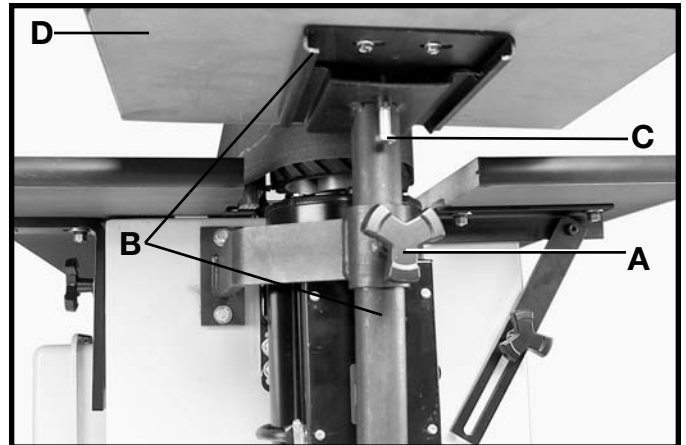

Fig. 30
2. To adjust the end table vertically, loosen lock knob (A) Fig. 30, and move the table assembly (B) up or down as necessary. Tighten lock knob (A) after adjustments are made.
3. To adjust the table horizontally, loosen locking screw (C) Fig. 30, and move table (D) in or out as necessary. Tighten locking screw (C) after adjustments are made.